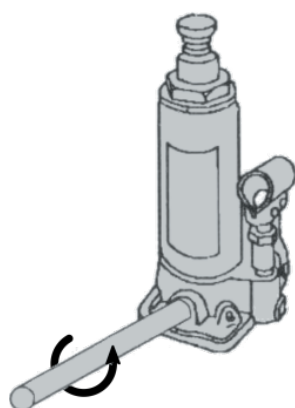

Figure 2: Open the drainage valve
- Open the drainage valve by inserting the end of the pump lever with the cut-outs onto the knob of the drainage valve and rotate slowly (a maximum of one turn) anti-clockwise (Figure 2).
- Open the drainage valve by inserting the narrow end of the pump lever onto the knob of the drainage valve and rotate slowly (a maximum of one turn) anti-clockwise (Figure 2).